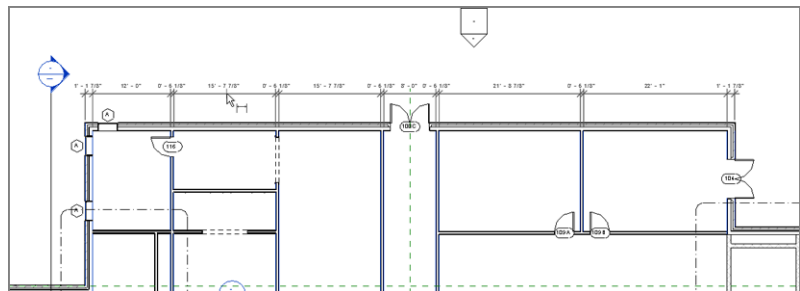

FIGURE 5.4 : By choosing the Entire Walls option, you can add an entire string of dimensions in one click.
8. Zoom in on the north wall, as shown in Figure 5.4.
10. Pick a point (to place the dimension) approximately 8' (2400mm) above the north wall (see Figure 5.4).